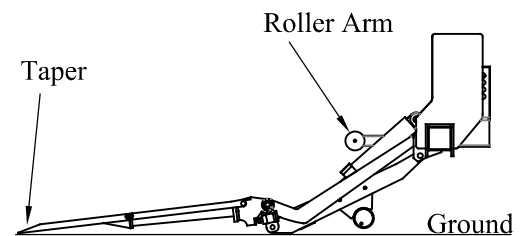

Figure 37: Step 9.
- To raise (or lower) the load, stand off to the side, well clear of the platform and **push up** (or down) on the control toggle switch until the load has reached the desired position. Do not allow the pump and motor to continue to run after the platform has reached its maximum height or after it has reached an obstruction (Figure 37).